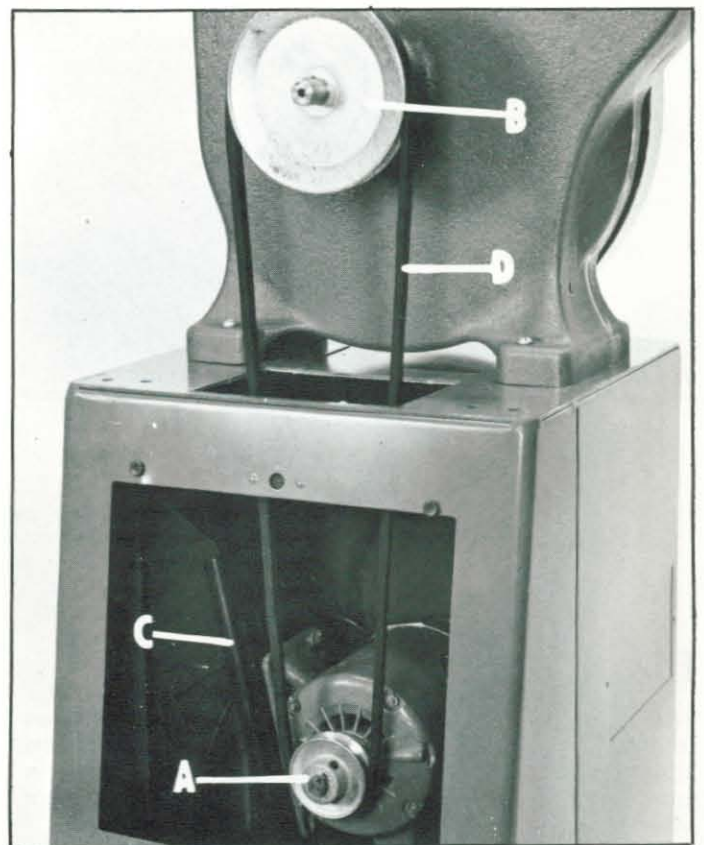

Fig. 8
5. Assemble motor pulley (A) Fig. 8 to the motor shaft. Make sure the set screw in the motor pulley engages with key in motor shaft. Using a straight edge, make sure the motor pulley (A) and driven pulley (B) are in alignment. If necessary, both pulleys can be moved in or out. The motor mounting plate (C) can also be moved if necessary.
6. Assemble the V-Belt (D) Fig. 8, to the two pulleys and adjust for proper belt tension by raising or lowering the motor on the motor plate. Keep pulleys in alignment when doing this. Correct belt tension is obtained when there is approximately 1" deflection in the center span of the pulleys with light finger pressure.